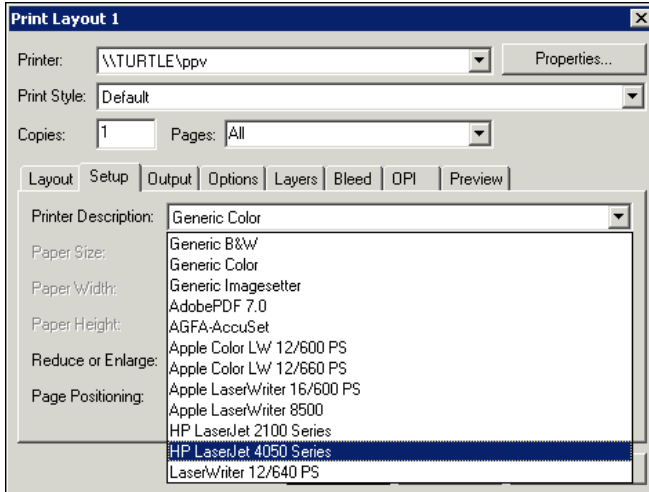

Fig. 5.9: "Setup" tab in QuarkXPress "Print" dialog
- Select the printer in the `Printer Description` pull-down menu (Fig. 5.9). `Generic Color` may be selected if your printer type is not stated in the list and you plan to print colored images, but *do not* select `Generic B&W`.